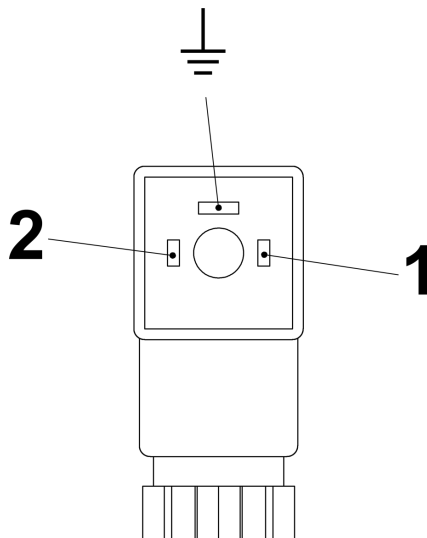
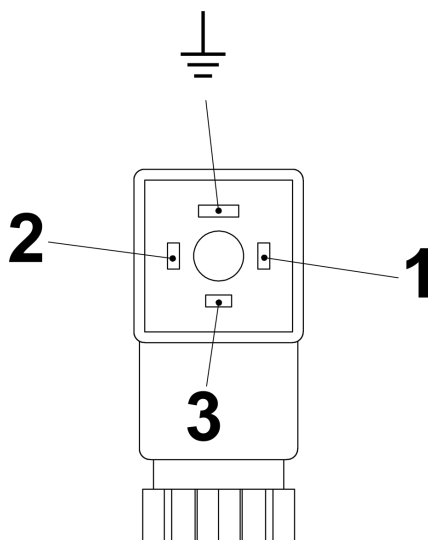

Fig. 25: Pin assignment, plug socket, normally-open contact (Form 15x50)
Fig. 26: Pin assignment, plug socket, change-over contact (Form 15x50)
6. ➤ Make the connections as shown in connection diagrams (Fig. 25 and Fig. 26)